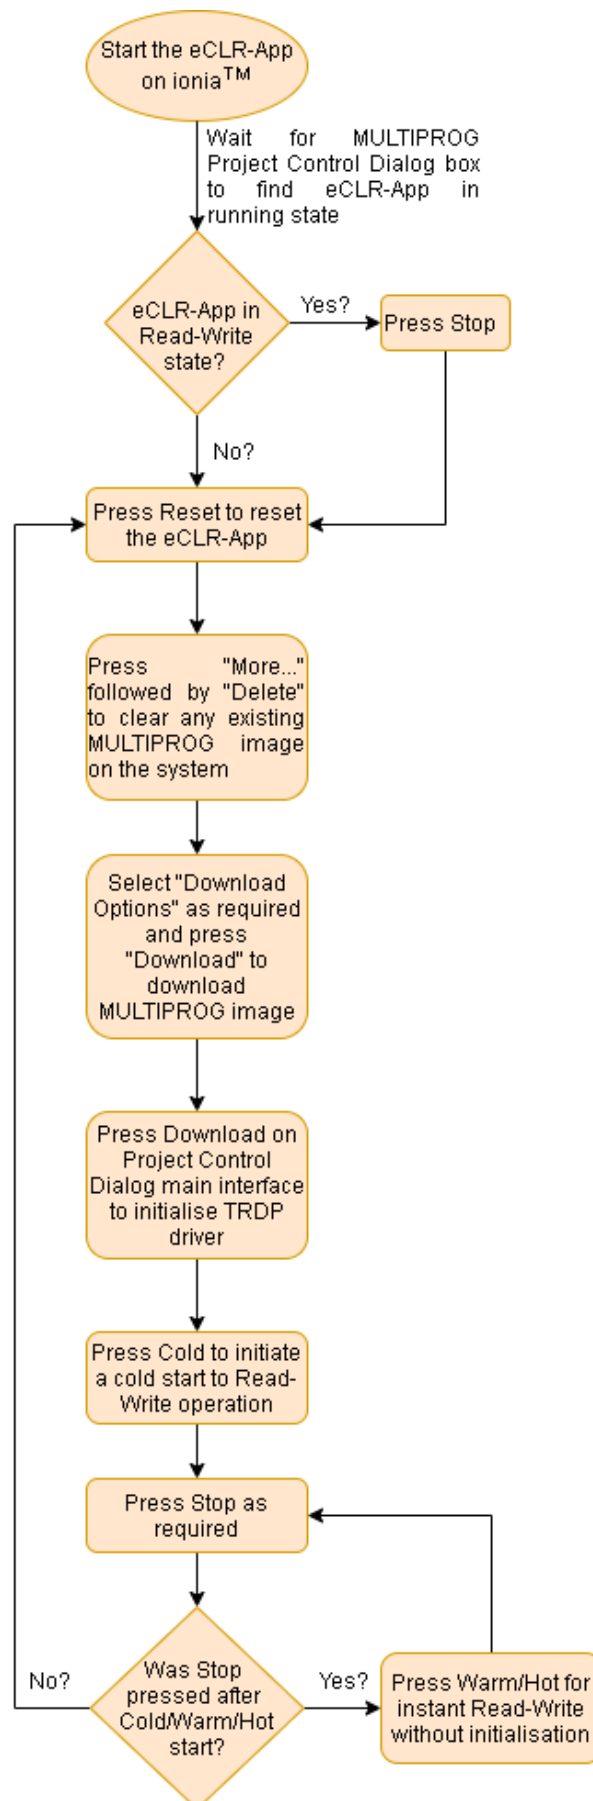

Figure 35: Instructions to use MULTIPROG Express Project Control Dialog
Figure 35 shows how the MULTIPROG Project Control Dialog needs to be operated by the users when using the i303_DG_TRDP_DRV TRDP interface driver. It is important that the ECLR application is started on the ionia™, be it in whatever state, so that the MULTIPROG Project Control Dialog can help the user decide the actions that need to be taken. As long as the MULTIPROG Express application does not find the ECLR application in an accessible state, the Project Control Dialog displays a "Timeout" message with the buttons of the dialog box not accessible to the user, till the ECLR application becomes accessible once again. "Timeout" message is also displayed when a wrong IP address of the ionia™ is input in MULTIPROG application's Resource settings.
- Remember that the "Cold" option can only be used in the beginning after the TRDP stack initialisation. Once the users stop the read-write operations by pressing "Stop" on the dialog box, in order to start Read-Write operations once again without stack initialisation, the "Warm" or "Hot" buttons on the dialog box should be used to initiate warm or hot read-write options (see Figure 35)